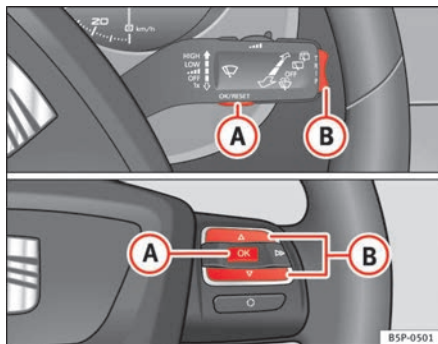

Fig. 40 Rocker buttons A and B. Steering wheel controls.
You can switch between the following displays in the multi-function display (MFD) by operating the rocker switch \Rightarrow fig. 40 (B) on the windscreen wiper lever.